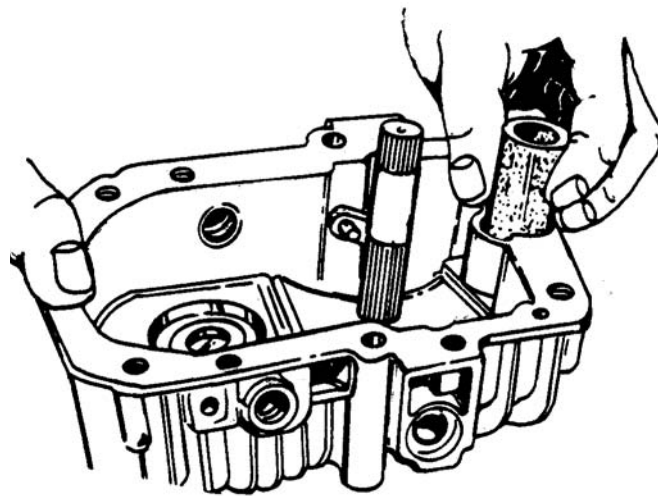

Figure 6-47. Installing Filter
- a. Check filter. Replace spring, washer and filter. See Figure 6-47.